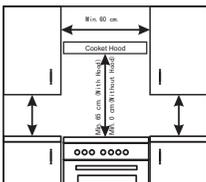

Figure 1
d) Place the wall cabinets adjacent to the hood at a minimum height of 42cm from the hobs as indicated in figure 1.
f) Should the cooker be installed beneath a wall cabinet, the latter should be situated at least 70cm away from the hobs as indicated in figure 1.
g) The cut-out for the cooker cabinet should have the dimensions indicated in the figure 1.